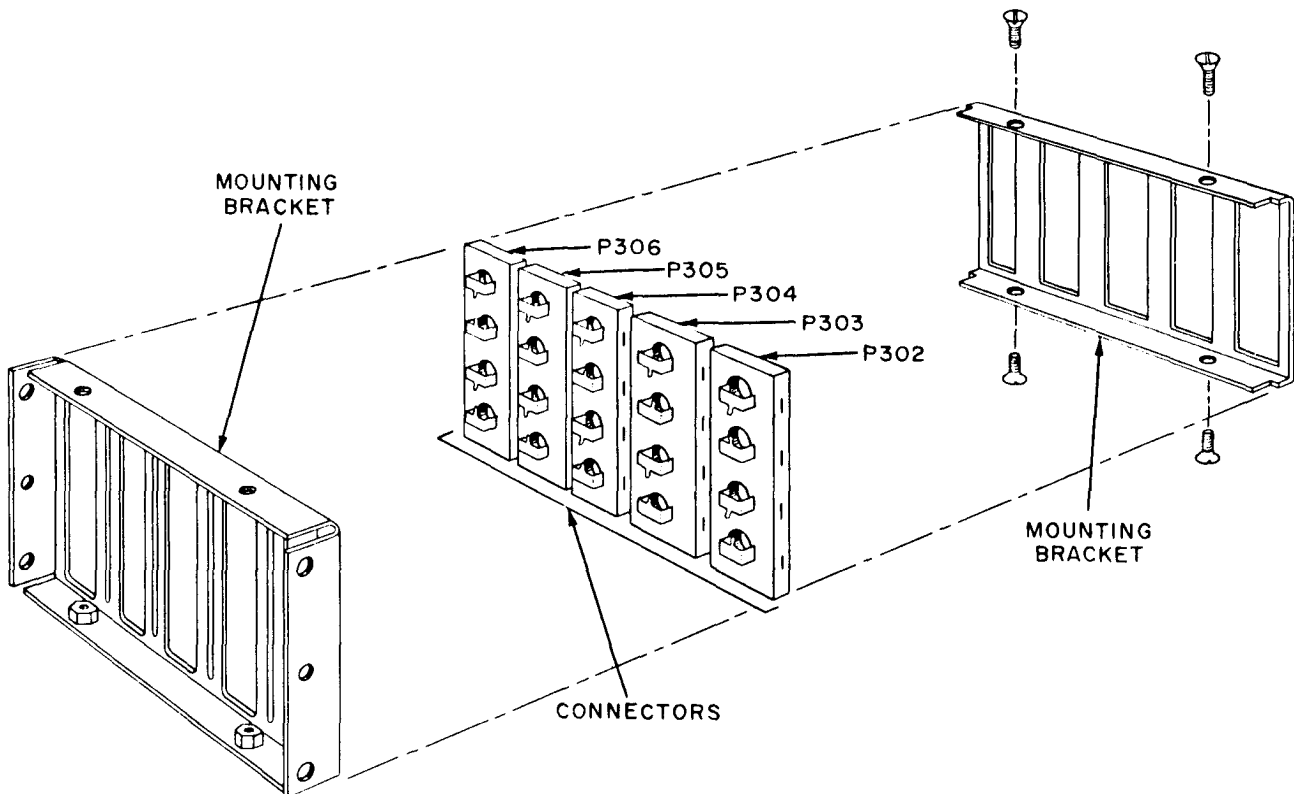

Figure 2-8. Connector Mounting Bracket, Exploded View.
- (2) Slide the connector mounting bracket assembly (33) off the operator's pack chassis; be careful not to pull the leads.
- (3) Unscrew the retaining screws (fig. 2-8) on the top and bottom of the mounting bracket.
- (4) Disconnect the leads from the connector that is to be replaced.
- (5) Separate the two parts of the mounting bracket enough to remove the connector.